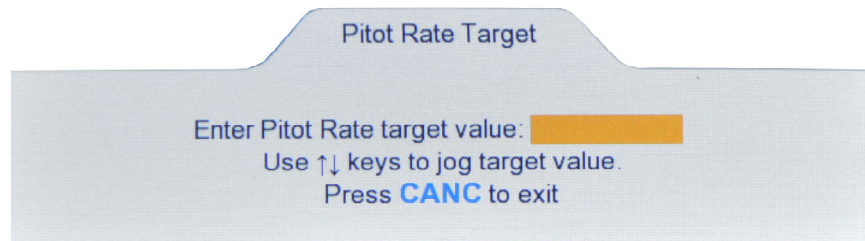

Figure 3.11 : Pitot Rate Target value
The Pitot Rate Target value can be changed only if the key# symbol (3) is displayed to the left of the Pitot Rate Target value field. Press key '3' on the keypad and the Lower section of the display will appear as shown in Figure 3.11 below.
If the Rate Target value needs to be changed in small increments, instead of entering a value, the arrow keys may be used to Jog the Rate Target value up or down. If the current Pitot Rate Target value is 150.0 knots, and the Lower screen appears as in Figure 3.11 above, pressing the **Up-Arrow** key will make the screen appear as shown in Figure 3.12 below.